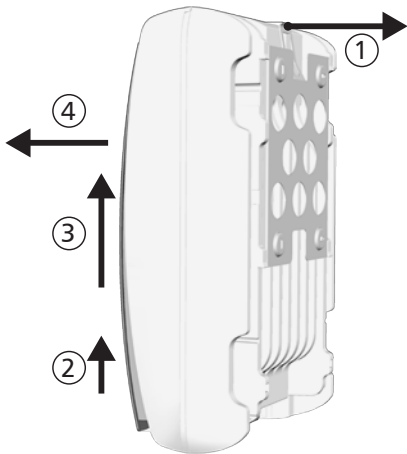

Figure 30
- 1. Use one hand to press the retaining plate on the mounting plate approx. 5 mm (0.20 in) towards the mounting surface ① (Figure 30).
- 2. Use the other hand to push the inverter upwards, far enough so that the retaining plate no longer latches. ② Release the retaining plate.
- 3. Lift the inverter with both hands until the hooks on the rear side of the inverter are free ③
- 4. Remove the inverter from the mounting surface ④